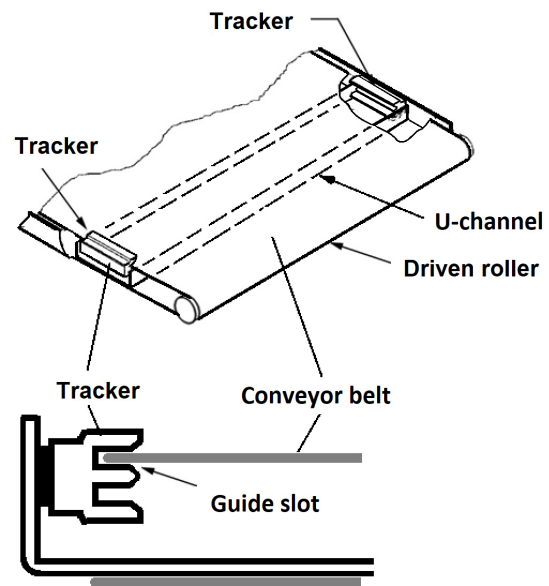

Figure 11-1: Underside of conveyor shown
6. On the underside of the conveyor table, there are U-channels welded to the table. The Tracker is positioned on the inside of the first U-channel on the infeed side of sander (Figure 11-1). The back of tracker is magnetized and will stick to